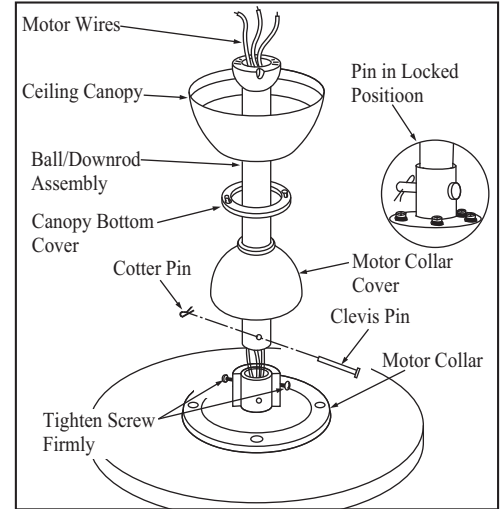

Figure 6
3. Remove the clevis pin, cotter pin and set screws from the top of the motor assembly.. (Figure 6)
4. Route wires exiting from the top of the fan motor through the coupling cover, canopy cover, canopy and then through the ball/downrod. (Figure 6)
5. Align the holes at the bottom of the downrod with the holes in the coupling on top of the motor housing (Figure 6). Carefully insert the clevis pin through the holes in the collar and downrod. Be careful not to jam the clevis pin against the wiring inside the downrod. Insert the cotter pin through the hole near the end of the clevis pin until it snaps into its locked position, as noted in the circle inset of Fig. 6.
6. Tighten two set screws at top of the fan motor collar firmly and evenly. (Fig. 6)